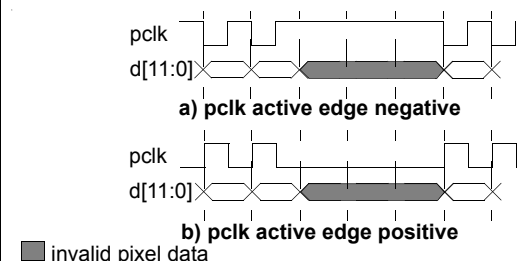

Figure 40. *pclk* in Data Ready Mode
- In data ready mode, the pixel clock output pin (*pclk*) will produce a pulse with a specified level every time valid pixel data appears on the digital video bus  $d[11:0]$  as shown in Figure 40.